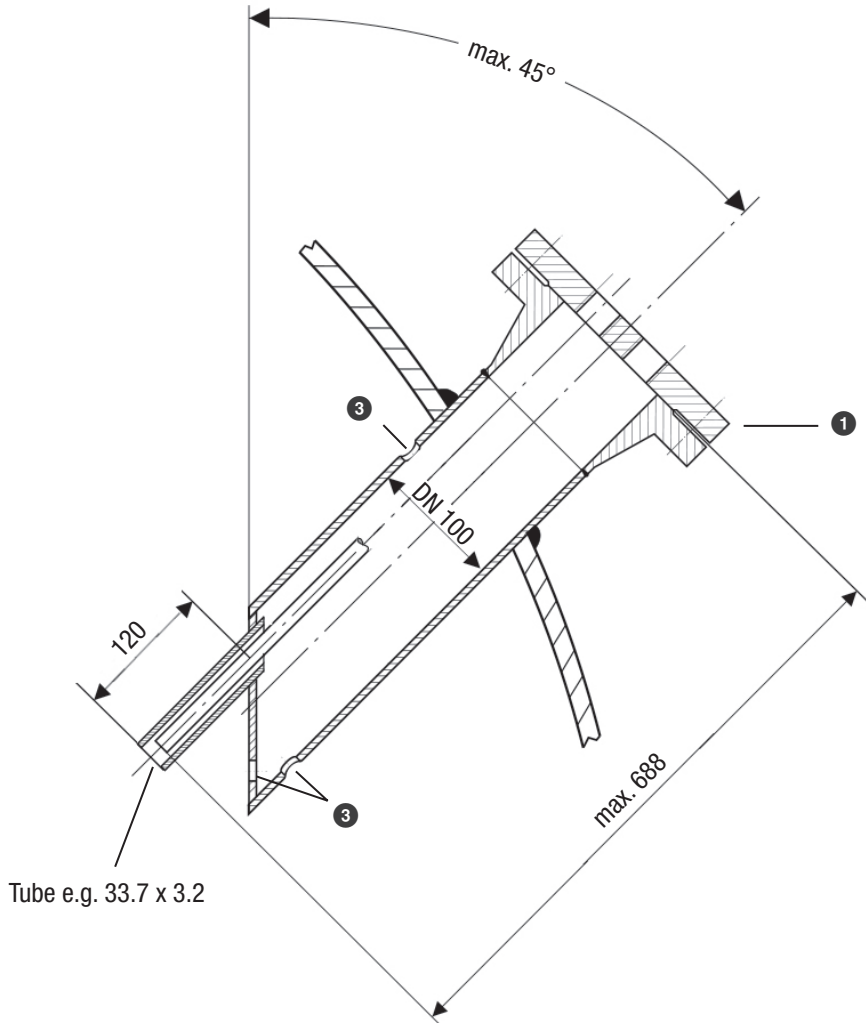

Fig. 13
- The level electrode may be inclined at 45° only when being used in a two-hole flange, with the length of the electrode rod limited to 688 mm maximum, see Fig. 13.
- Pay attention to the minimum clearances when installing the level electrode, see installation examples Fig. 9 to Fig. 13.
Key Fig. 9 to Fig. 13